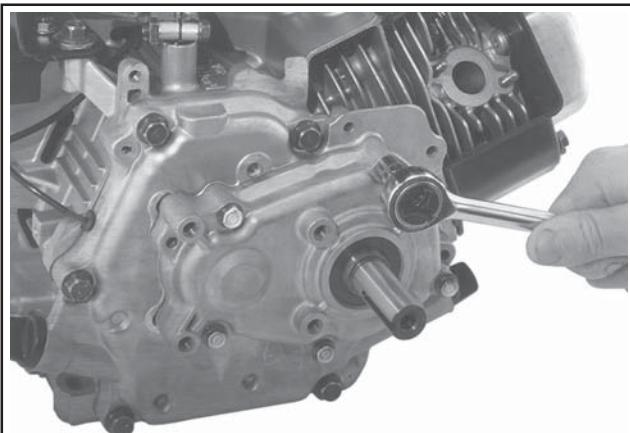

**Figure 9-53. Removing Mounting Screws and Stator.**
2. Remove the four hex flange shoulder screws securing the stator to the crankcase. Remove the stator and pull the wires through the opening in the casting. See Figure 9-53.